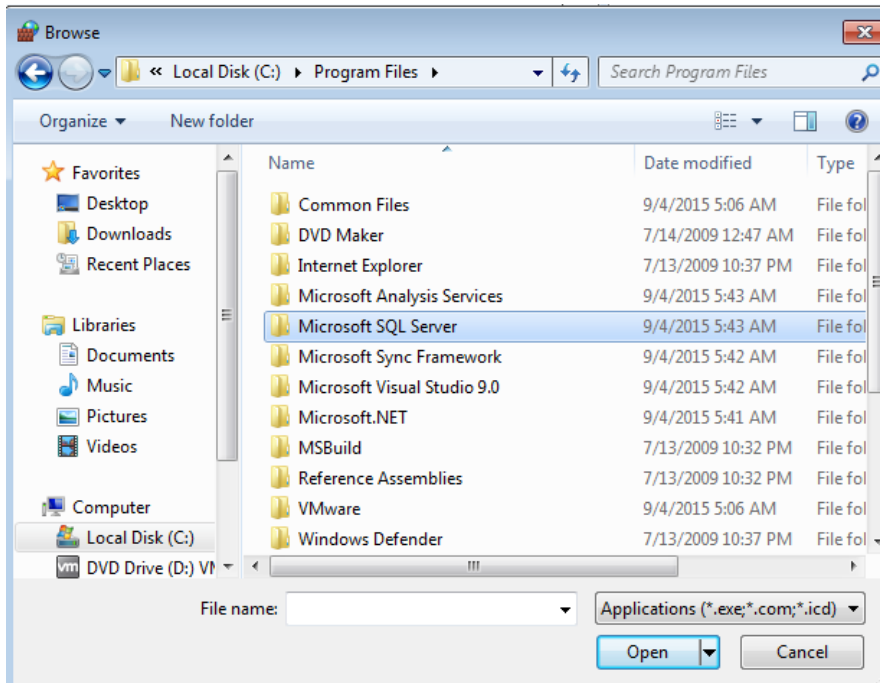

Fig.1.22 Program Files
(7) Open Microsoft SQL Server folder (see Fig.1.22).